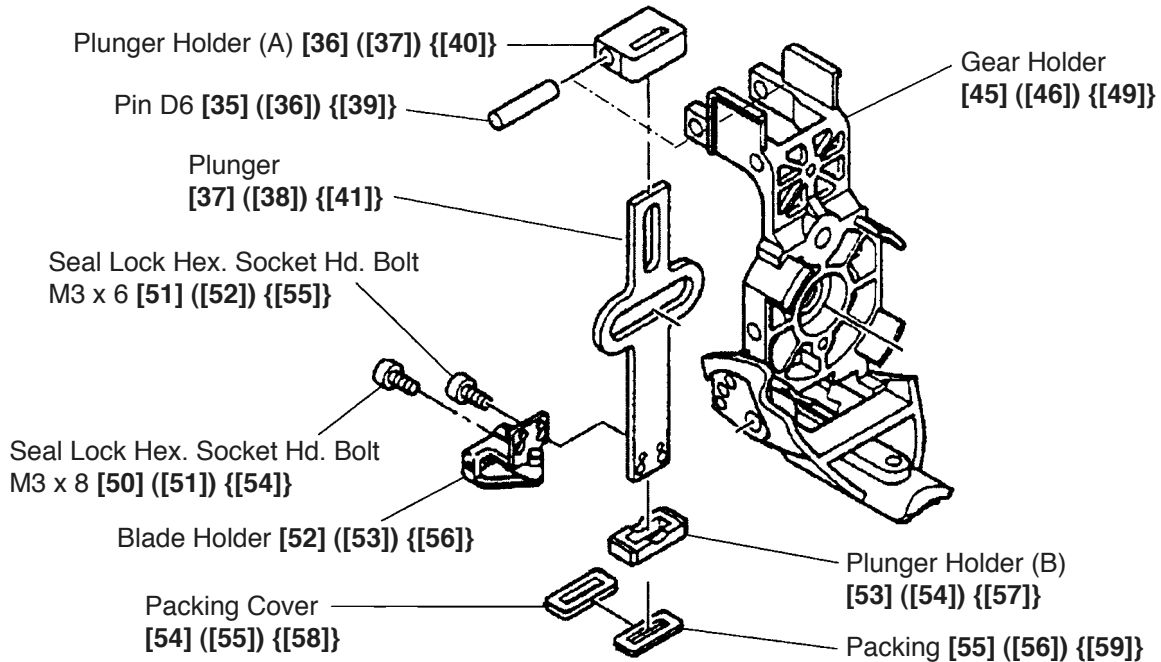

Fig. 9
(4) Disassembly of the Plunger [37] ([38]) {[41]} and the Blade Holder [52] ([53]) {[56]} (Fig. 9)